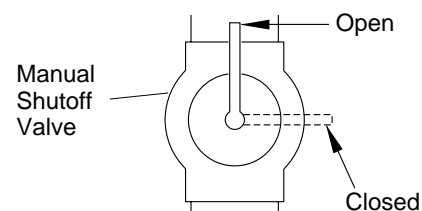

Figure 32 - Manual Shutoff Valve
1. Close manual shutoff valve (see Figure 32).
1. Open manual shutoff valve (see Figure 32).